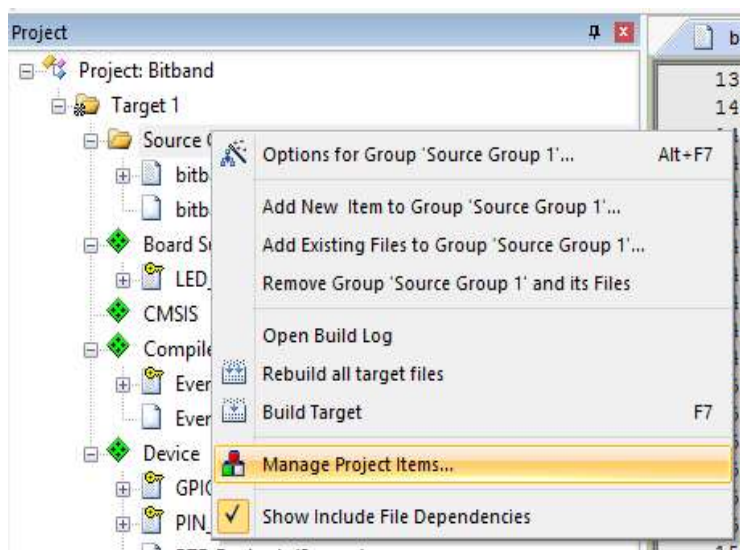

Figure 17
1. With the uVision application open, download the cond_ex.c file from D2L and put it in place of bitbanding files. Right click on **Source Group 1** > **Manage Project Items** as shown in Figure 17.